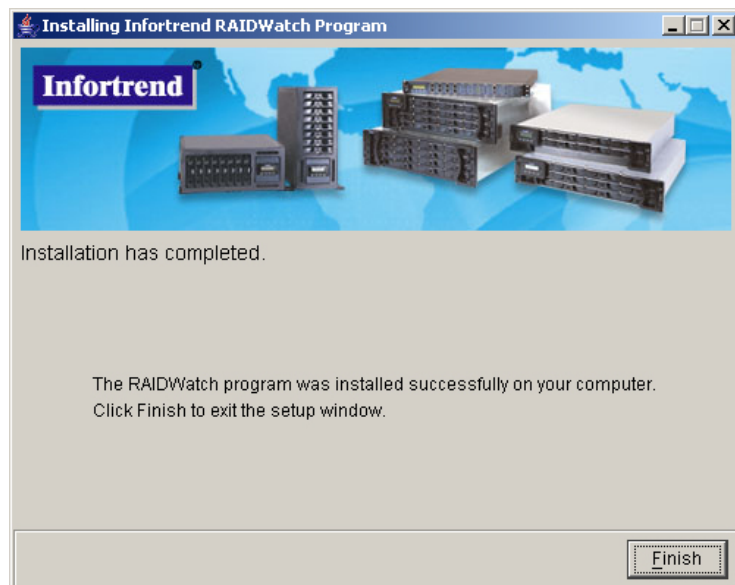

Figure 3-10: Successful Installation
**Step 2.** Once the software has been successfully installed, a window indicating the successful installation (see *Figure 3-10*) will appear. To complete the process and exit the window, click *Finish*.